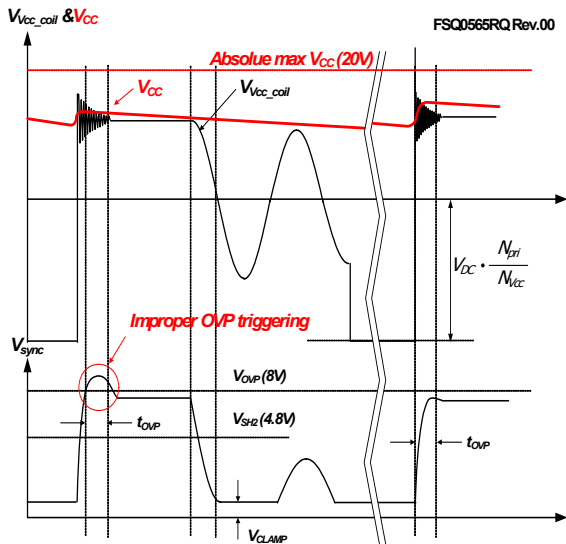

Figure 33. OVP Triggering of FSQ0565RQ
4.4.2 Sync Over-Voltage Protection (OVP) of FSQ0565RQ: If the secondary-side feedback circuit malfunctions or a solder defect causes an opening in the feedback path, the current through the opto-coupler transistor becomes almost zero. V_{FB} climbs up in a similar manner to the overload situation, forcing the preset maximum current to be supplied to the SMPS until the overload protection triggers. Because more energy than required is provided to the output, the output voltage may exceed the rated voltage before the overload protection triggers, resulting in the breakdown of the devices in the secondary side. To prevent this situation, an OVP circuit is employed. In general, the peak voltage of the sync signal is proportional to the output voltage and the FSQ-series uses a sync signal instead of directly monitoring the output voltage. If the sync signal exceeds 8V, an OVP is triggered, shutting down the SMPS. To avoid undesired triggering of OVP during normal operation, two points are considered, as depicted in Figure 33. The peak voltage of the sync signal should be designed below 6V and the spike of the SYNC pin must be as low as possible to avoid getting longer than t_{OVP} by decreasing the leakage inductance shown at V_{CC} winding coil.